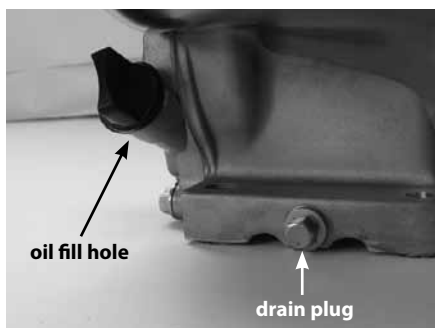

FIGURE 1
2. Remove oil drain plug and empty oil into suitable oil container. Dispose of oil properly. **SEE FIGURE 1.**